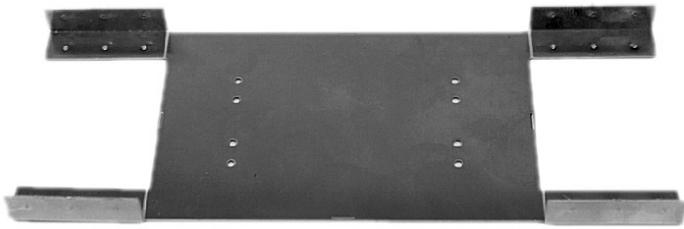
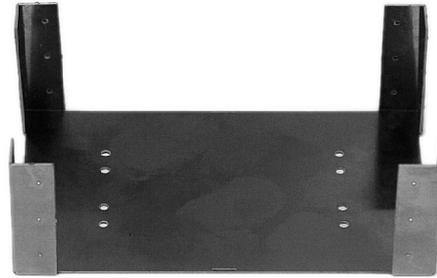

Fig 1
Fig 2
Taking the main body etch (item 1), first form the corner angles (fig 1) then fold the corner angles upwards from the floor (fig 2).